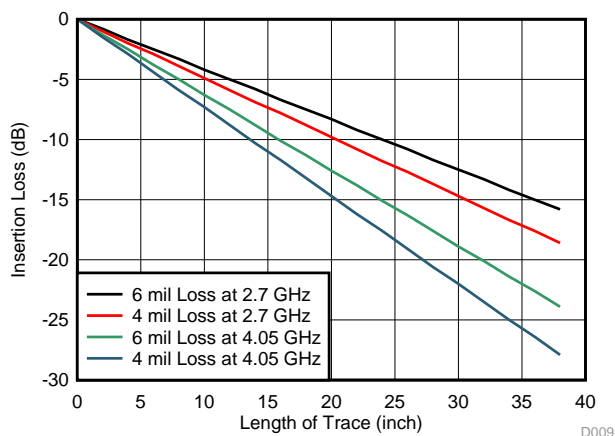

Figure 20. Insertion Loss of FR4 PCB Traces
- Determine the loss profile on the DisplayPort input (A) and output (B) channels. See Figure 20 for 6 mil trace insertion loss.
- Determine the loss profile on the DP input (C) and output (D) channels and cables. See Figure 20 for 6 mil trace insertion loss.